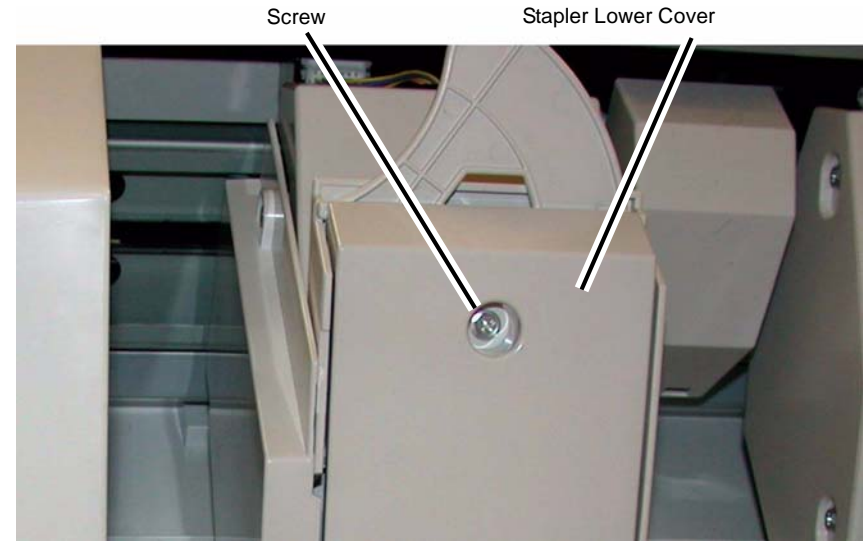

Figure 2 Removing the Stapler Lower Cover
5. Remove the Stapler Lower Cover (Figure 2).
- a. Remove the Screw (1).